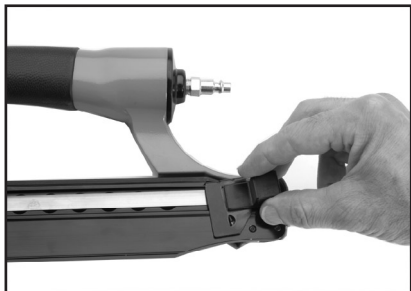

Figure 3. Locking the pusher.
2. Slide the magazine pusher to the rear of the magazine and pivot the pusher down until it catches in the lock notch on the magazine as shown in **Figure 3**.